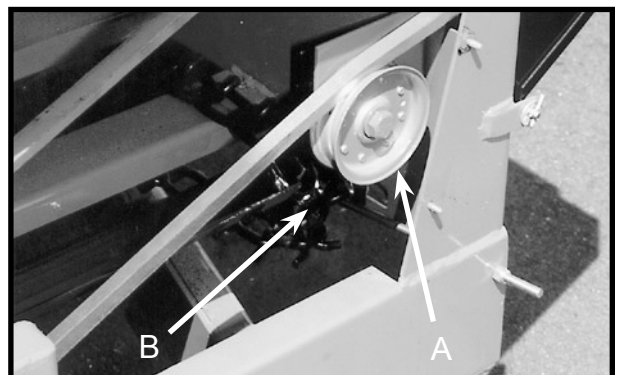

Figure 20-3
The belt tension is adjusted by loosening the nut that holds the idler pulley (A) Figure 20-3, slide the idler pulley (B) in the direction that tightens the belt until there is about 1" of deflection on a straight line midway between the drive sheaves.